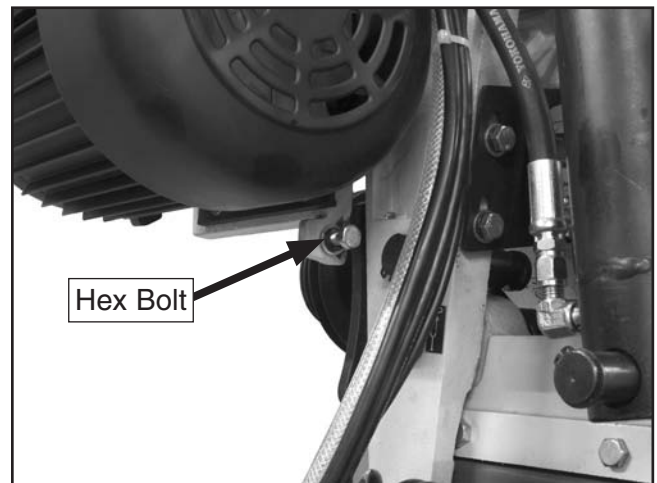

Figure 13. Motor adjustment bolt.
8. Remove the hex bolt shown in **Figure 13**.